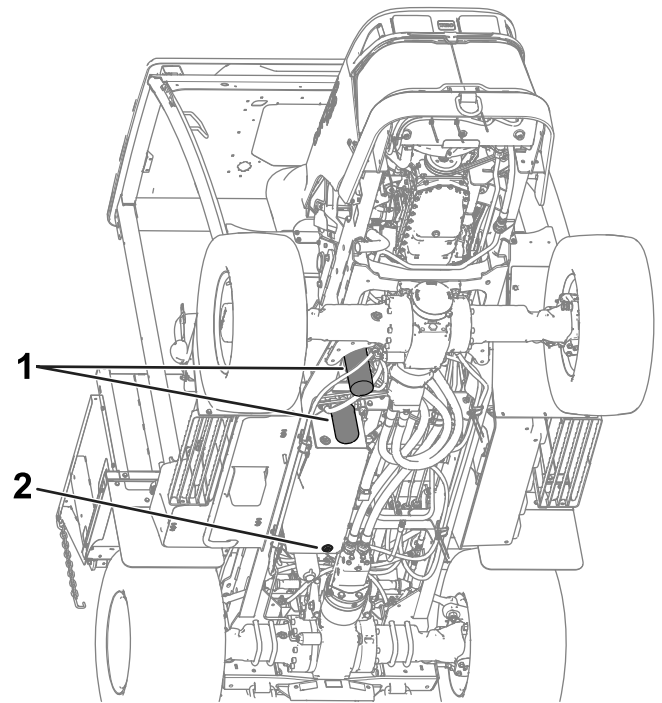

Figure 124
5. Remove the drain plug from the bottom of the tank and let the hydraulic fluid flow into the pan (Figure 124).
8. Place a drain pan under the filter and remove the filter (Figure 124).